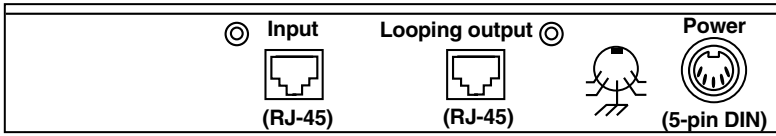
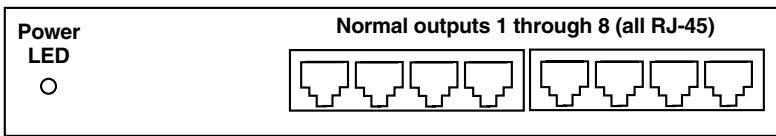

Figure 3-3. The hub's rear panel.
Figure 3-4. The hub's front panel.
5. Run the hub's power cord from the 5-pin DIN power inlet on its rear panel, shown in Figure 3-3, to the nearest working AC power outlet. The Power LED on its front panel, shown in Figure 3-4, should light up and stay on.